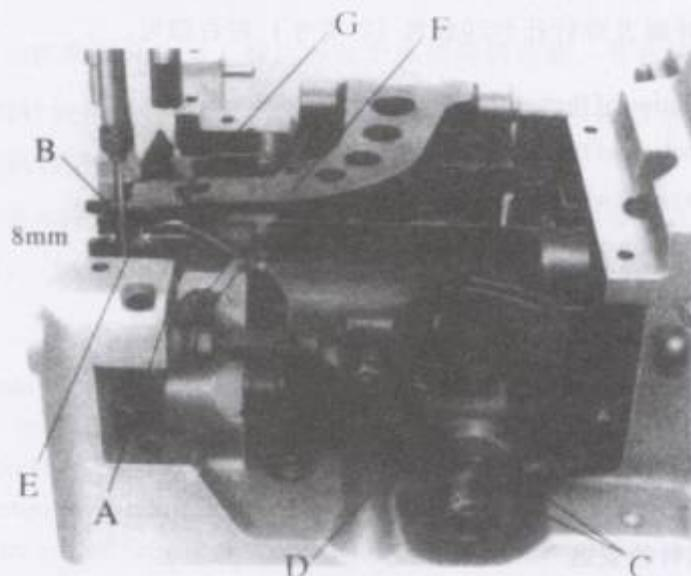
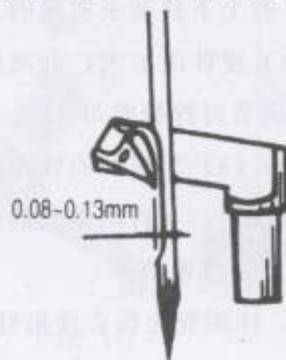
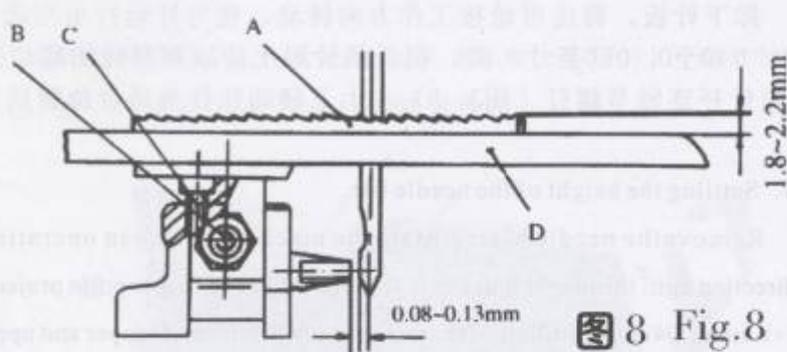

图5 Fig.5
图6 Fig.6
图8 Fig.8
(二) 用手顺时针方向旋转皮带轮,使针杆下移至最低点,同时弯针退至最右边位置,此时弯针(图5, A)尖和机针(B)的中心线距离为8毫米( $5/16$ 英寸)。调节时拧松弯针外曲柄的两只螺钉(C),左右转动弯针外曲柄(D),调节至需要的尺寸后再拧紧螺钉(C)。
(2). Rotate the machine pulley clockwise by hand, so that the needle bar moves to the lowest point, at the same time the looper moves back to its farthest position to the right. The distance from the pent of the looper (A, Fig. 5) to the centerline of the needle is 8mm( $5/16$  in.). For adjustment, loosen two screws(C) in the looper drive lever, rotace looper drive lever(D) left or right as required to obtain specified dimension and retighten screws(C).
(三) 继续转动皮带轮,使弯针(图5, A)从右向左运动时靠近机针背面的凹形处通过而不得接触,其间隙为0.08毫米-0.13毫米(0.003至0.005英寸)(图6所示)。调节时拧松弯针小偏心摇杆(图4, C)的螺钉(图4, D),按需要把弯针向前或向后摆动从而转动弯针架轴(图4, E)再拧紧螺钉(D)。
缝纫时因于袋边接接处厚度不一致, 往往会使机针刺在缝料厚薄交界处而弯曲或发生故障, 而机针挡块(图5上)则可起到保护作用。两者的间隙为0.08~0.13毫米(0.003至0.005英寸), (图8所示)。调整时将皮带轮按工作方向转动, 使机针挡块靠近机针, 拧松牙架上(图5, F)紧定螺钉(G), 移动机针挡块(E)至合适间隙后再拧紧螺钉(G)。
The needle will bend or break when abutting bags made of different thickness of sewing material. And the needle guard (E, Fig. 5) will protect the needle. The clearance between the needle and the needle guard is 0.08 - 0.13mm (.003 to .005in.) (Fig. 8). For adjustment, rotating pulley in the direction of operating, so that the needle guard moves against the needle. Loosen setscrew (G) on feed dog holder (Fig. 5), move the needle guard accordingly. Retighten screw (G).
根据缝料质量与厚度确定送料牙(图8, A)高度。对于布袋, 塑料编织袋等薄料, 齿面应高出针板(D)上平面约1.8毫米(0.070英寸), 麻袋约2.2毫米(0.090英寸), 调整时先将送料牙行至最高点, 卸下针板和送料牙。按需要的高度调节支承螺针(C)后, 重新装上送料牙和针板, 并紧固六角螺母(B)。
The height of the feed dog (A, Fig. 8) are determined by the quality and thickness of the sewing materials. For closing thin material such as bags made of cloth and plastic, teeth should project 1.8mm (.070in.) above the throat plate (D) top surface, and for sacks about 2.2mm (.090) above the throat plate. For setting, move the feed dog to the highest position, remove throat plate and feed dog, adjust the supporting screw (C) as required, remount the feed dog and throat plate. Retighten screws (B).